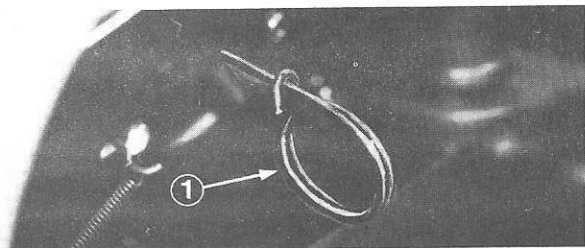

Fig. 11 ① Choke
The choke is located on the upper right side of the engine (Figure 11). Use the choke when the engine is cold and doesn't start immediately. Push the choke in after the engine has warmed up.
4. If the engine is cold, pull out the choke (Figure 11).